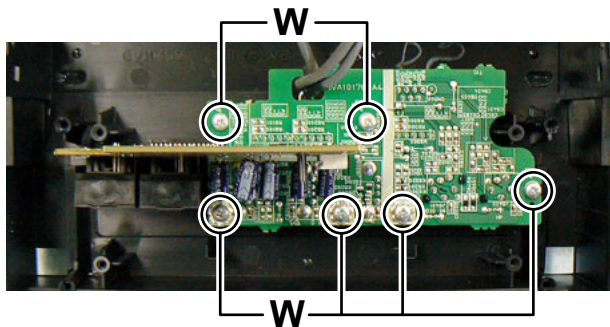

Fig.21
- (4) Remove the six screws W attaching the Mic board and USB board. (See Fig.21)